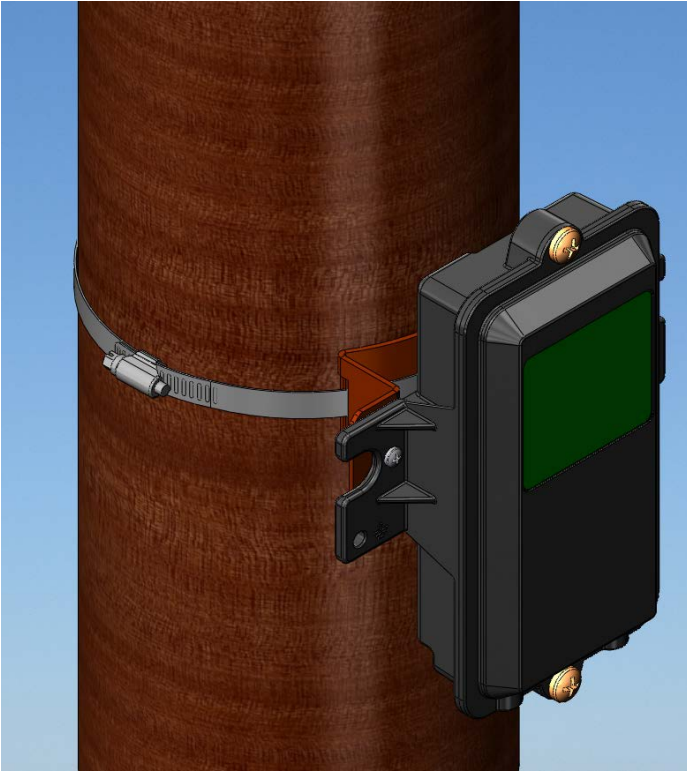

Figure 2. Unit mounted to pole
3. Place clamp around pole and engage the gear with the end tab (as shown in Figure 2).